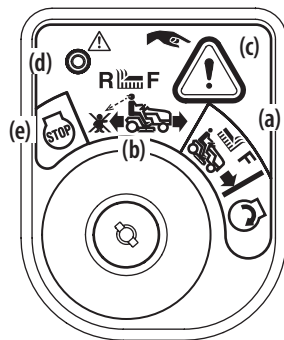

Figure 20
2. Turn the key from the NORMAL MOWING  (a) position to the REVERSE CAUTION MODE  (b) position of the ignition module. See Figure 20.
3. Press the REVERSE PUSH BUTTON  (c) at the top, right corner of the ignition module. The red indicator light (d) at the top, left corner of the ignition module will be ON while activated. See Figure 20.